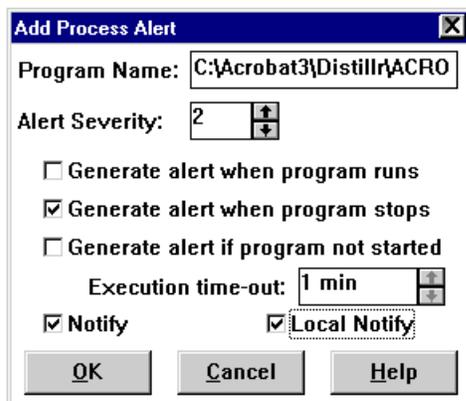

Figure 133. Adding an Alert When ACRODIST Stops
3. Right click on the ACRODIST process and click on **Add Process Alert**. Figure 133 on page 174 appears.
- Log the alert at the server — already configured since we specified **Local Notify** in Figure 133 on page 174.
- Popup a message on the administrator's workstation — already configured since we specified **Notify** in Figure 133 on page 174 and the administrator's workstation should, by default, be configured to pop-up all Sev 2 messages.